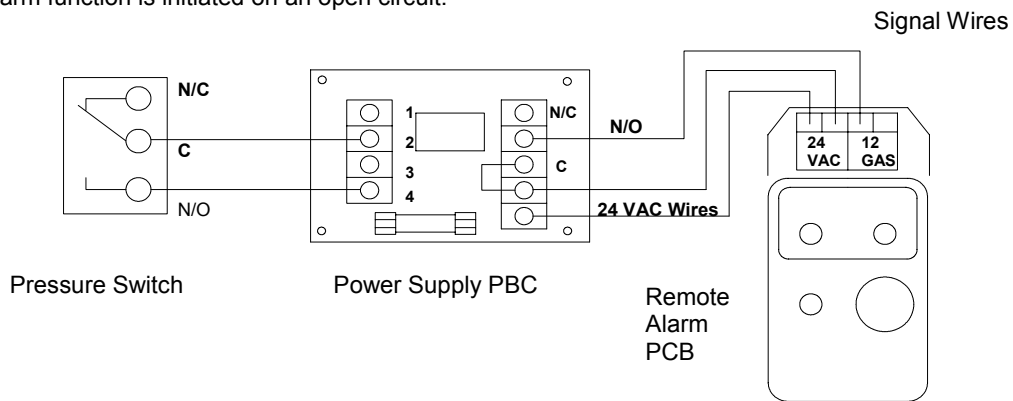

FIGURE 6 Western's Remote Alarm
1. Connect one 24 VAC lead from the alarm to one 24 VAC terminal on the right side of the circuit board in the power supply box. (Figure 6)
3. A Jumper wire is connected between one 24 VAC terminal and the common ground (C) terminal.
2. Connect the other wire to the terminal #4 on the left side of the power supply. Connect the other end of the wire to the normally open (N/O) terminal on the pressure switch. (Figure 6)